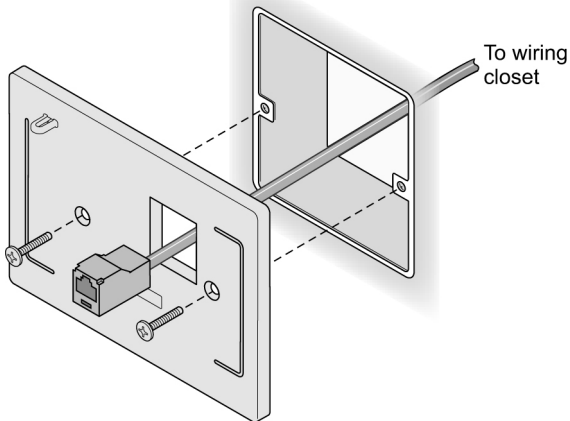

Figure 3a: Installing the Universal Wall Plate
- 1 Thread the RJ-45 Connector attached to the wiring closet cable through the opening in the Universal wall plate (Fig. 3a).